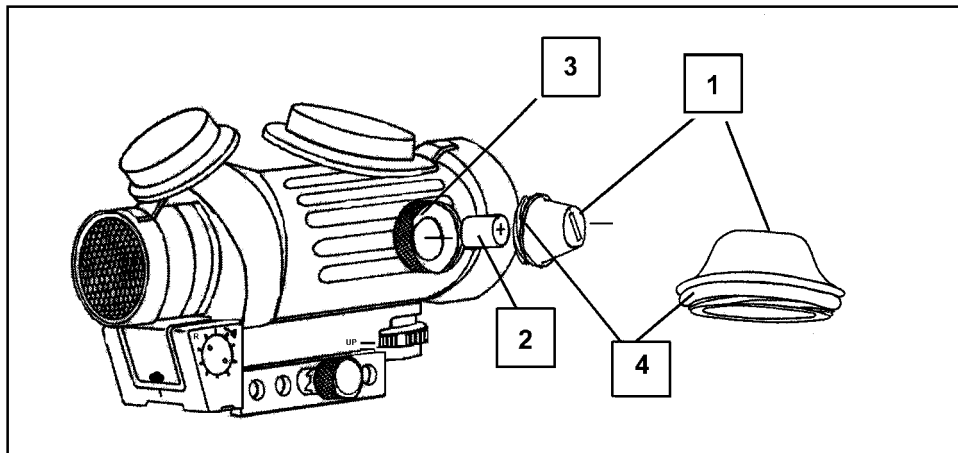

Figure G-36. Installing and checking batteries.
- b. Insert battery (2) with positive (+) end to cap (Figure G-36).